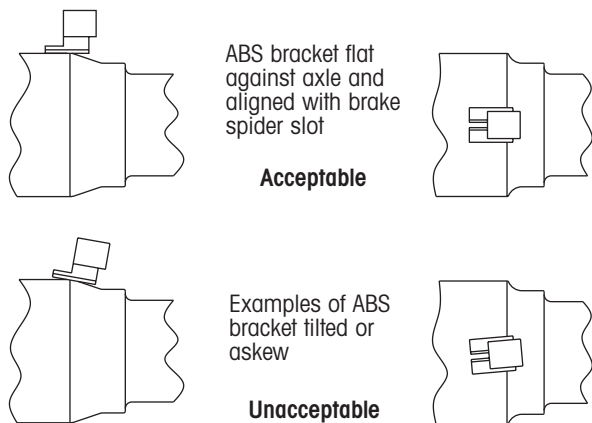

Figure 3. Properly positioning the ABS bracket
5. Temporarily clamp the bracket in place. Make sure the ABS bracket is flat against the axle and aligned with the slot in the brake spider. The ABS bracket must not be tilted or askew (figure 3).